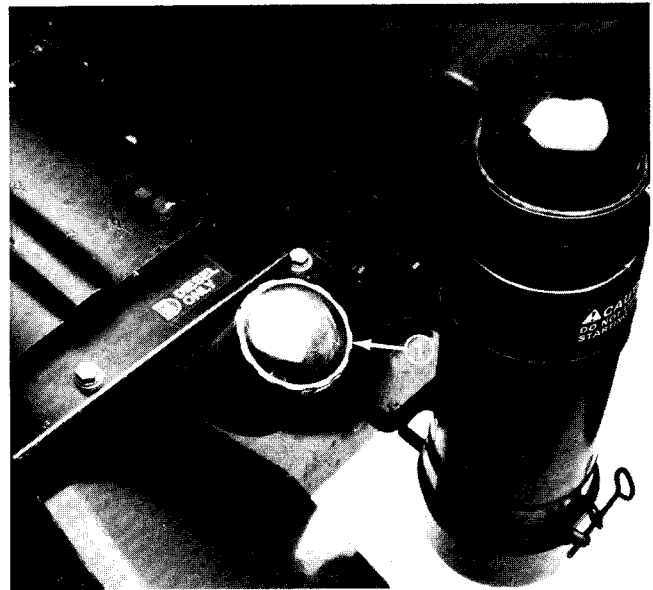

Figure 9
1. Use a clean rag to clean the area around the fuel tank cap (Fig. 9).